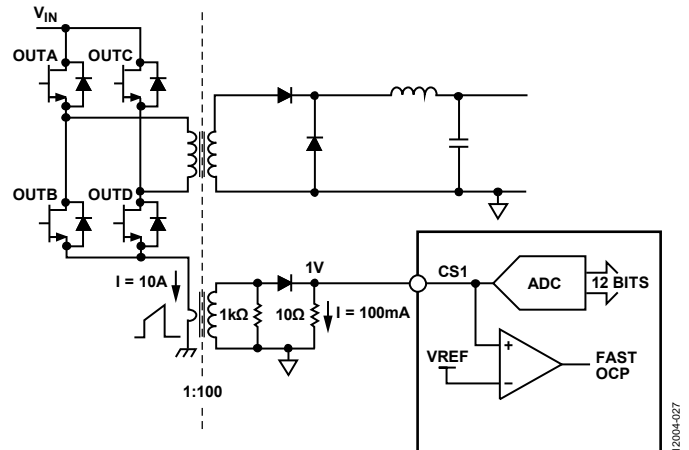

Figure 29. Current Sense 1 (CS1) Operation
The CS1 pin is typically used for the monitoring and protection of the primary side current. The primary side current is sensed using a current transformer (CT). The input signal at the CS1 pin is fed into the CS1 ADC for current monitoring. Figure 29 shows the typical configuration for the current sense. The READ_IIN command reports the average input current; this reading is updated every 10.5 ms.